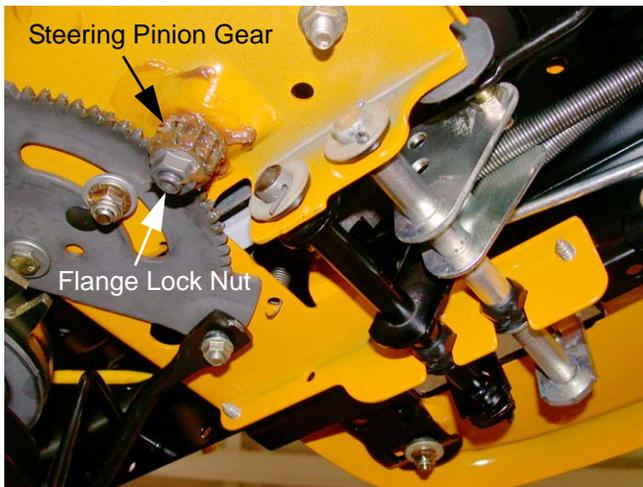

Figure 35.2
- 35.2. If you are just replacing the steering pinion gear, use a 11/16" socket to remove the flange lock nut securing the steering pinion gear to the steering shaft. See Figure 35.2.